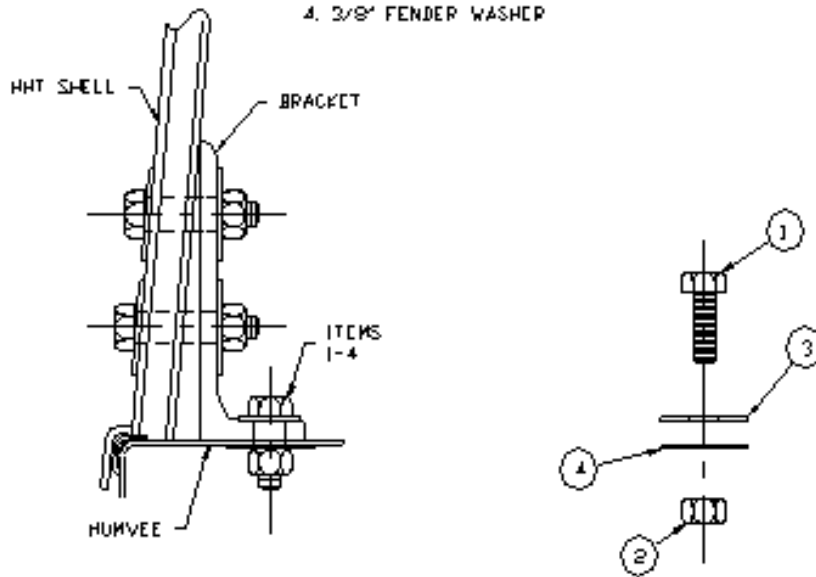

FIG 1-5
13. Tap the mid L-brackets down until they contact the wheel well. With a 3/8" drill bit, drill through the mounting holes on each bracket. Fasten the mid L-brackets to the vehicle with (2 ea.) 3/8"-16 x 1-1/2 hex bolts, (2 ea.) 3/8"-16 nyloc nuts, (2 ea.) 3/8" flat and (2 ea.) 3/8" fender washers. Tighten the four bolts which secure the mid L-brackets to the top. See figure 1-5.